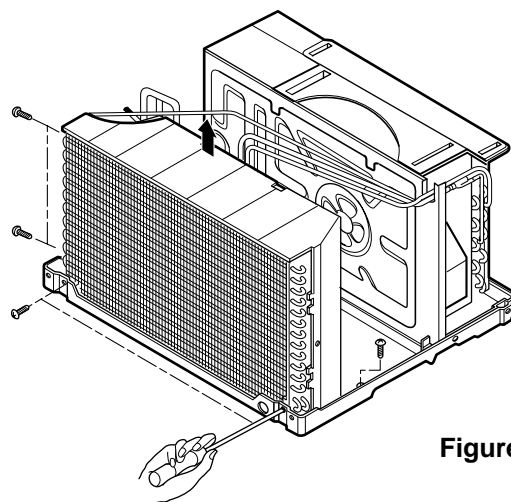

Figure 29
6. Re-install the component by referring to notes. (See Figure 29)